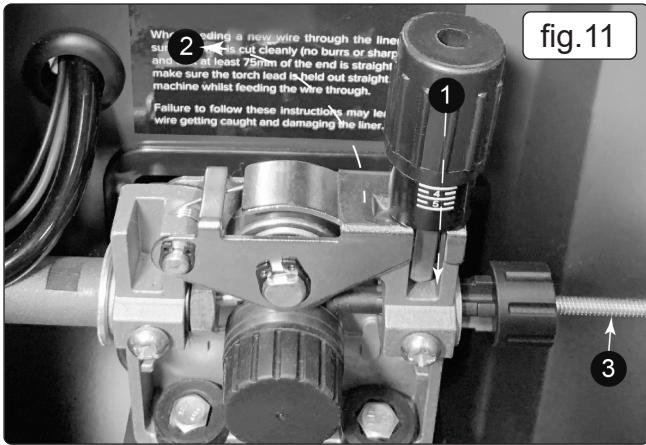

fig.11
- 4.13.1. Open the wire feed mechanism by pushing the locking/wire tension knob (1) down to the right allowing the pressure roller carrier (2) to spring up revealing the feed roller as shown in fig.11. Ensure that the required feed groove (0.6 or 0.8) is in line with the wire path. See Section 4.15 on how to reverse or change the roller.
- 4.13.3. Straighten about 40-50mm of wire and gently push it through the flexible metal sheathed cable, fig.11 (3) and through the 6 or 8mm feed roller groove and on into the torch cable liner.
4.16.2. Referring to fig.11, open the wire feed mechanism by pushing the locking/wire tension knob (1) down to the right allowing the pressure roller carrier (2) to spring up revealing the feed roller.